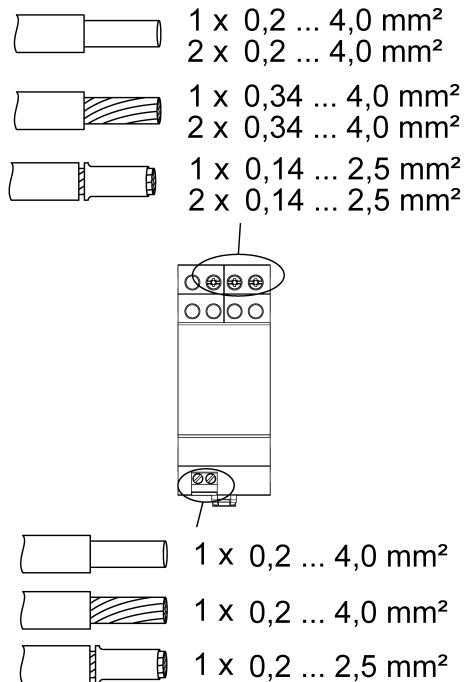

Figure 3: Clampable conductor cross-section
- Observe the clampable conductor cross-sections of the connection terminals (Figure 3).